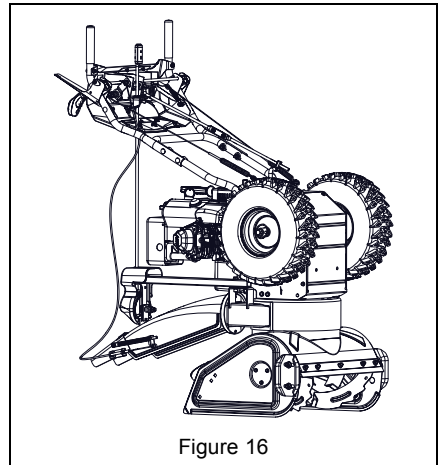

Figure 16
See Figure 16.
1. Place unit in service position. See Figure 16.